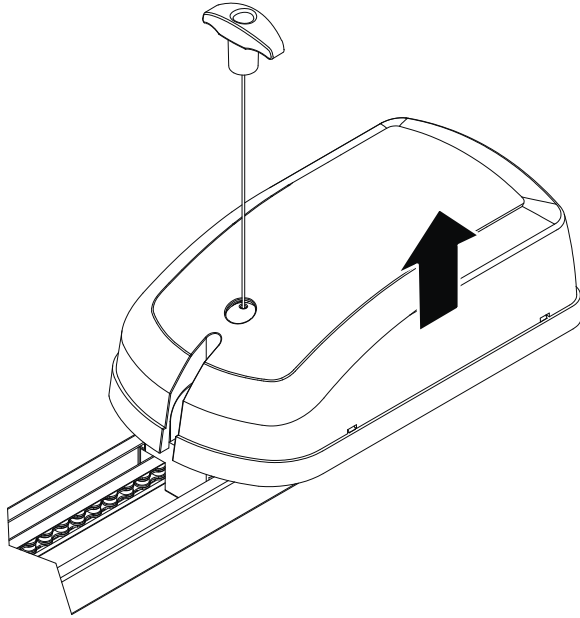

Fig. 2
- Remove the Drive Unit cover (Fig.2) by pulling outwards and upwards, on both sides, at the location marked by the arrow.